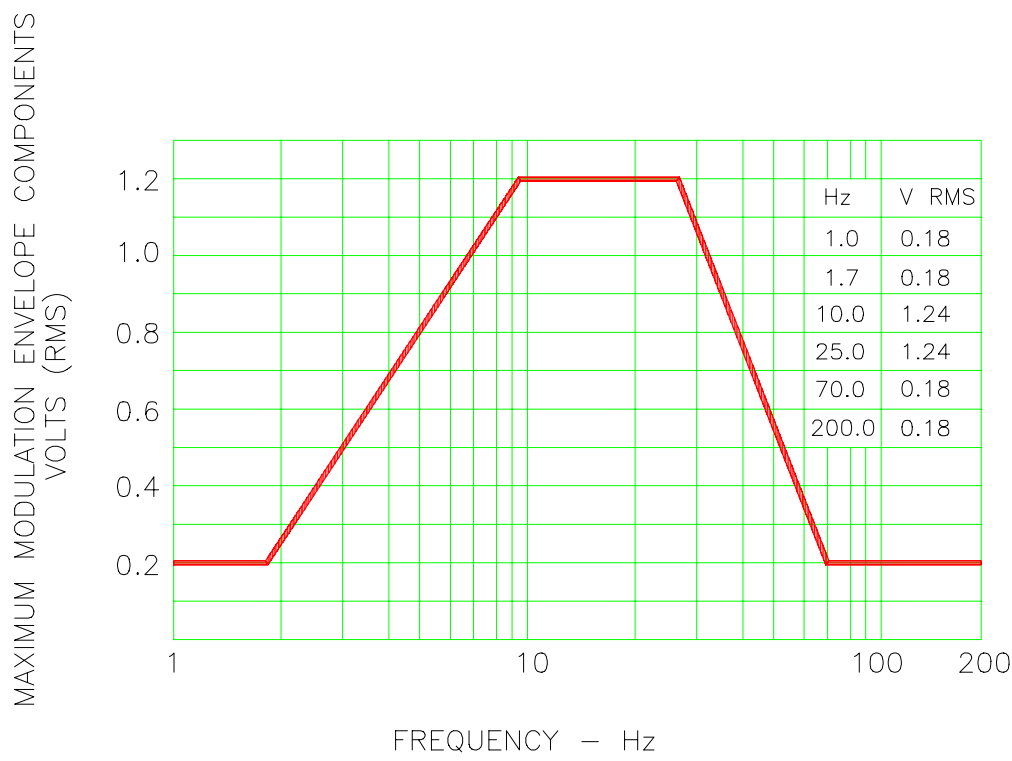

Figure 8-4: Voltage Modulation - Frequency characteristics
This test requires a numeric value entry equal to the modulation rate in Hz. This entry value must be between 1 Hz and 200 Hz. The amplitude modulation is calculated based on the modulation rate as defined in Figure 8-4. This test will last for 2 minutes.
**Note:** Voltage modulation levels change linearly from frequency 1.7Hz to 10Hz and again from 25Hz to 75Hz. See Figure 8-4.